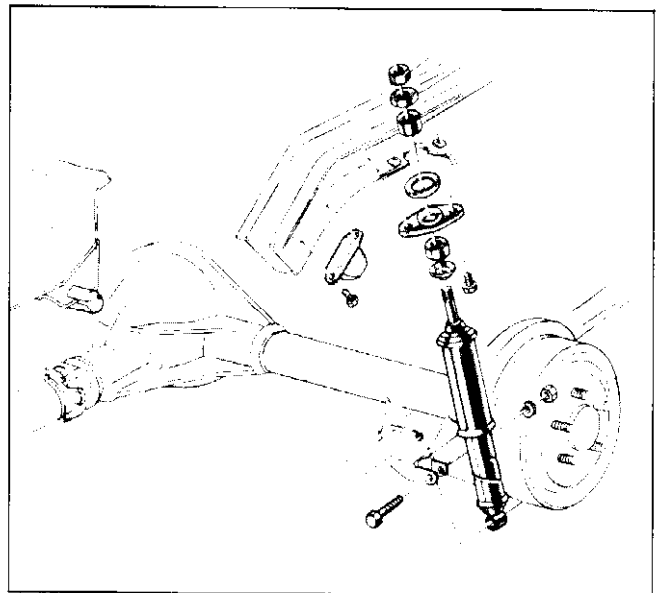

Fig. 4-5 Rear Shock Absorber Installation
1. Raise rear of vehicle and support rear axle assembly (Fig. 4-5).